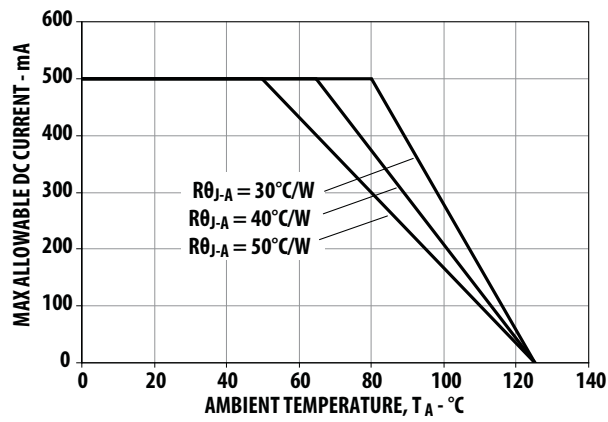

Figure 10. Maximum Forward Current vs. Ambient Temperature. Derated based on T_{JMAX} = 125°C, R_{θJ-A} = 30°C/W, 40°C/W and 50°C/W
1. Derate linearly based on Figure 10 for AllInGaP and Figure 22 for InGaN.